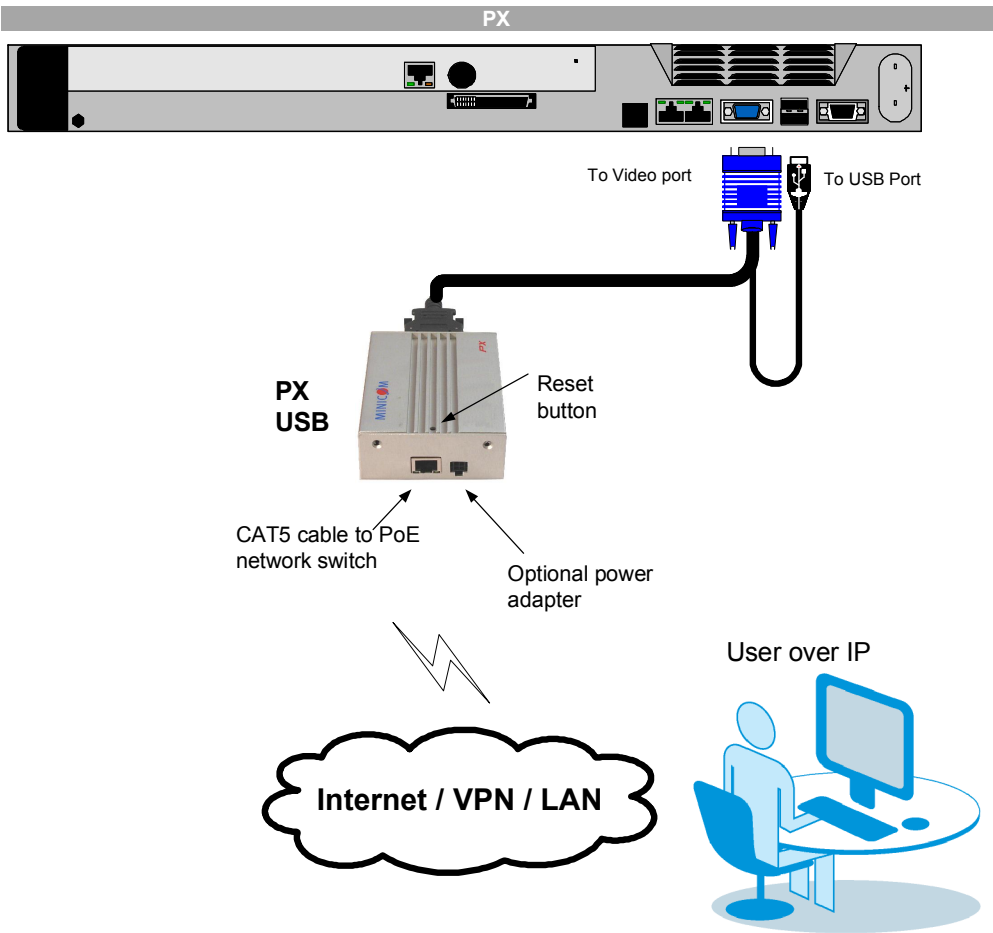

Figure 4 PX connections
1. Connect the USB and Video connectors of the USB/Video cable to the relevant ports of the Target server. See Figure 4 below.